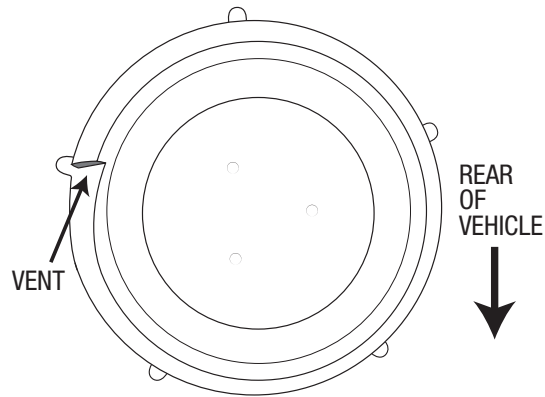

Figure 20
2. Install the Pre-Filter. This must be installed with the vent to the rear of the vehicle (Fig. 20).